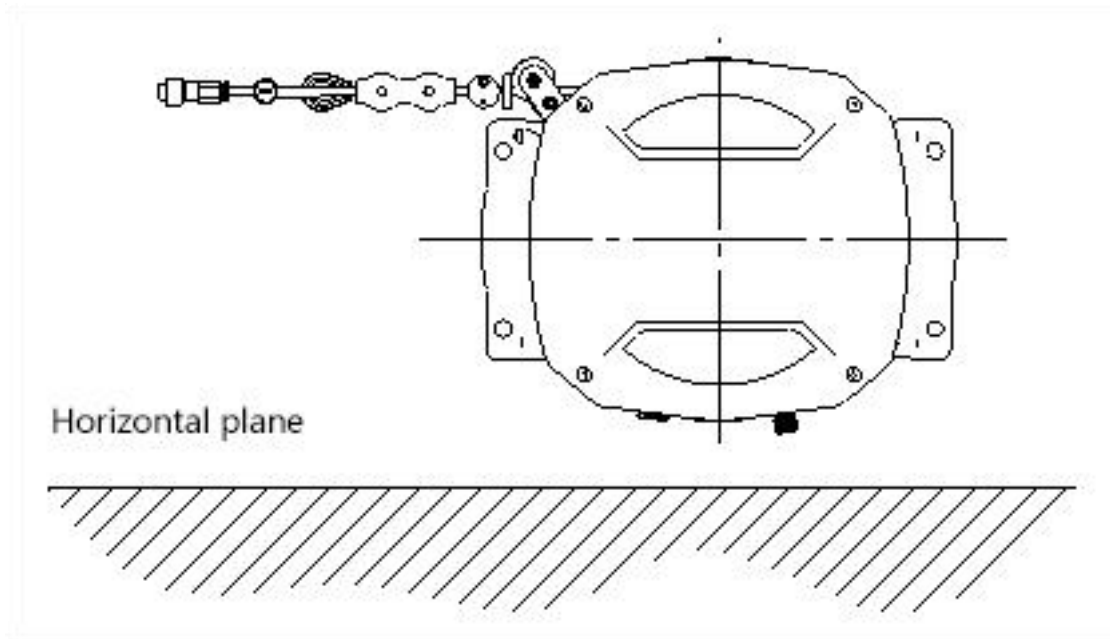

Figure 4.3-2
(2) When the centerline of the long angle sensor is placed parallel to the horizontal plane as shown in Figure 4.3-2, the angle output value of the long angle sensor is  $0^\circ$ . If the long-angle sensor is left-set type, the angle value increases when the long-angle sensor is rotated clockwise, and decreases when the long-angle sensor is rotated counterclockwise. If the long-angle sensor is right-set type, the angle value increases by rotating the long-angle sensor counterclockwise, and decreases by rotating the long-angle sensor clockwise. Customers should determine the initial position of the long angle sensor according to their own applications.